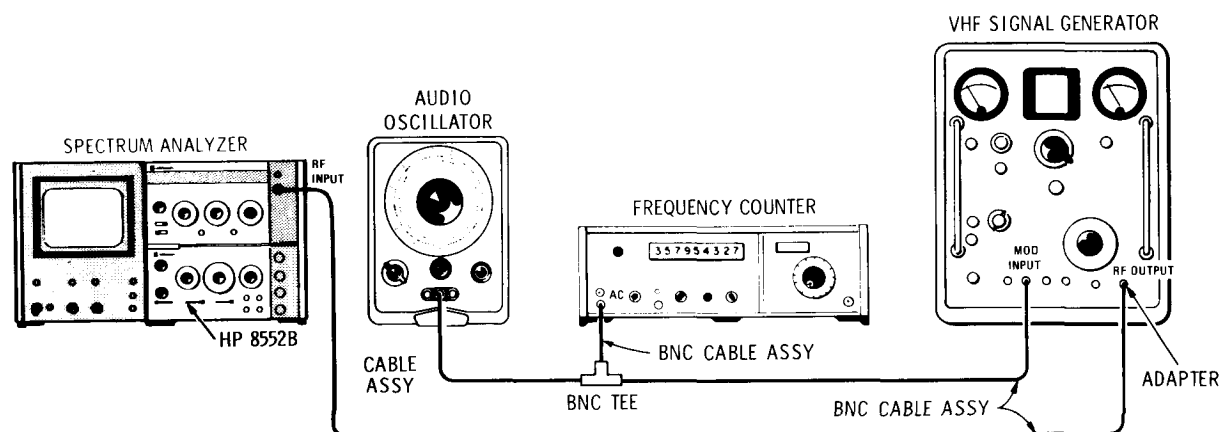

Figure 4-6. Scan Time Accuracy Test Setup
1. Connect the test setup in Figure 4-6 and make the following control settings: